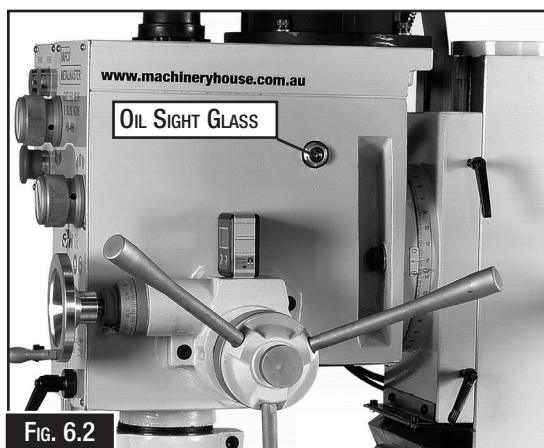

Fig. 6.2
4. Replace the oil drain plug and remove the oil filler plug, and fill the gearbox with oil until the oil level reaches the middle of the oil fluid lever indicator. (Fig. 6.2)